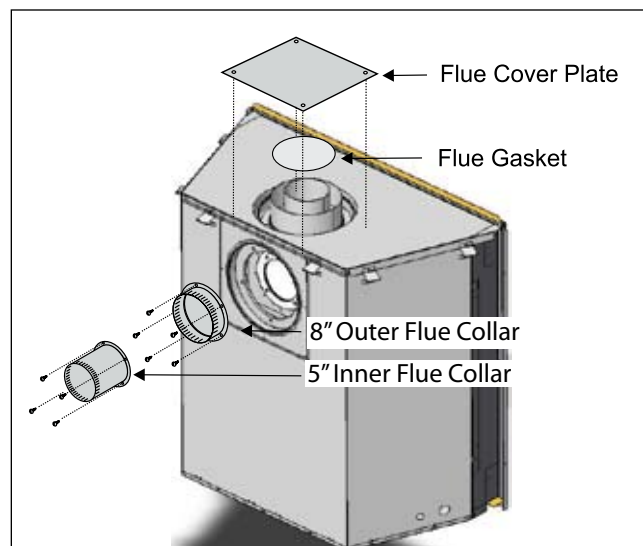

Figure 8b. Flue collar installation for Rear Vented fireplace.
3. Install the flue gasket material and flue cover plate on the top vent outlet. Fasten the plate with four screws, as illustrated in figure 8b.